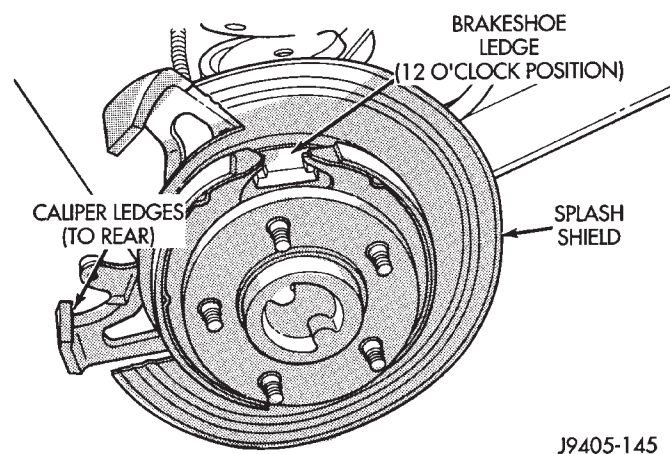

Fig. 59 Checking Caliper Bracket And Shield Position
(8) Verify correct positioning of caliper bracket and shield (Fig. 59). Caliper opening and ledges should be to rear as shown.